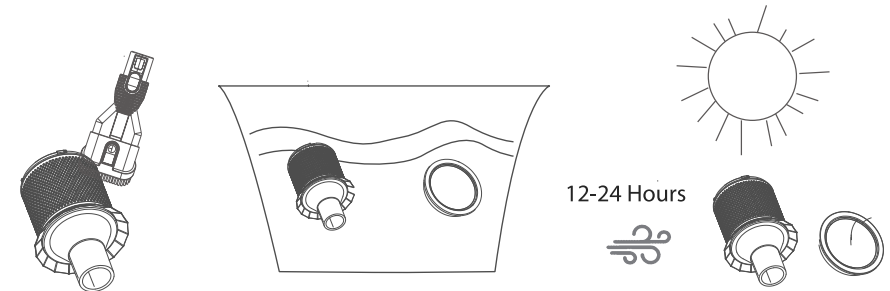

Fig 3
3. Clean the metal pre-filter using a soft-bristle brush (e.g. the 2-in-1 dusting tool). Tap to remove dust from the pre-motor filter or wash them with water. Ensure they are fully dry before reassembling (Fig. 3). **DO NOT wash the dirt bin.**
Turn the HEPA filter cover counterclockwise to remove it (Fig 1). Gently tap to clean, or dip in water if needed (Fig 3). Ensure the HEPA filter is completely dry before reassembling and using.